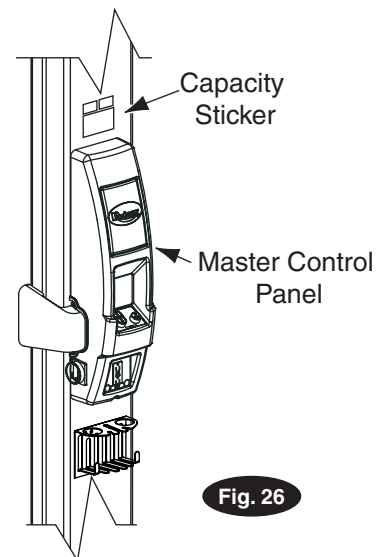

Fig. 26
17. Capacity Sticker: Place capacity sticker above master control panel as shown in Fig. 26.